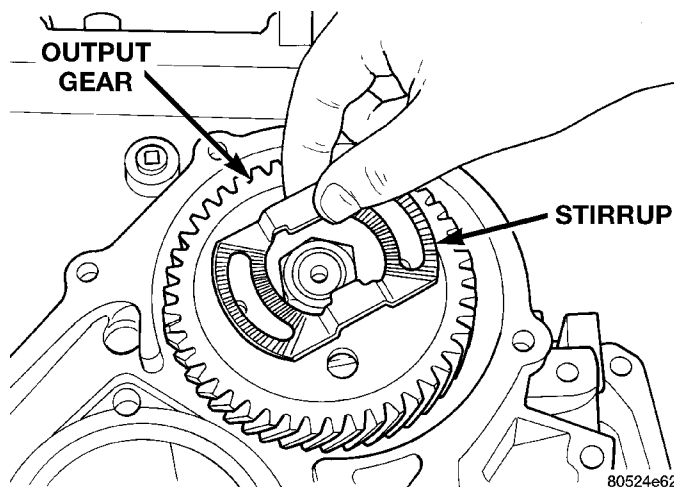

Fig. 156 Remove Stirrup From Gear
(4) Remove stirrup from output gear (Fig. 156).